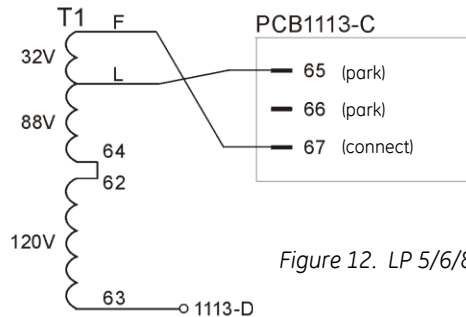

Figure 12. LP 5/6/8/10-11U: Output tap change
1. The factory setting of the output tap (208Vac) has to be changed to 240Vac. Please refer to fig. 12 and 12a. Proceed as follows: